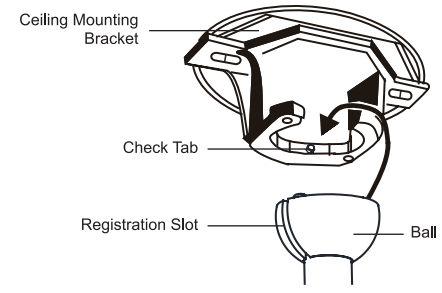

Fig. 11
Step 11. Lift the motor assembly into position and place the ball into the ceiling mounting bracket. Rotate the entire assembly until the “Check Tab” has dropped into the “Registration Slot” and seats firmly. **(Fig. 11)**